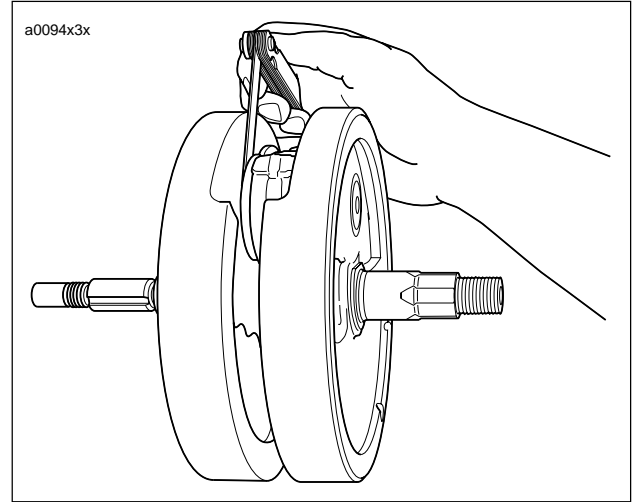

Figure 3-132. Checking Connecting Rod Side Play
1. See Figure 3-132. Check connecting rod side play with a thickness gauge as shown.